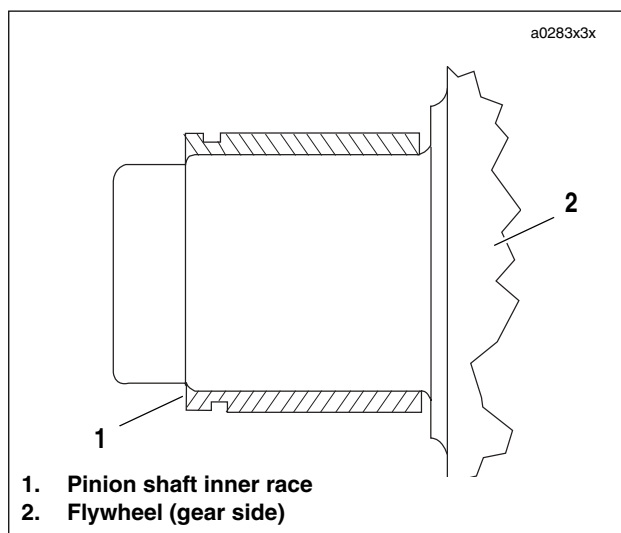

Figure 3-120. Inner Race Location
7. See Figure 3-120. Pull inner race from pinion shaft using WEDGE ATTACHMENT for CLAW PULLER (Part No. HD-95637-46A) with BEARING RACE REMOVER/INSTALLER (Part No. HD-34902B) and END CAP (Part No. HD-34902-7). Apply heat to race to aid removal.